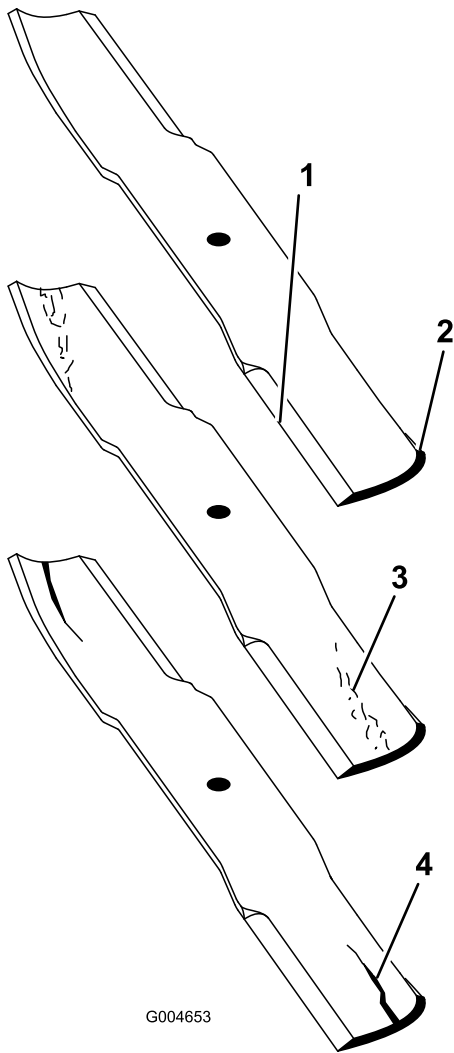

Figure 86
- Examine the cutting ends of the blade carefully, especially where the flat and curved parts of the blade meet (Figure 86).
Note: Because sand and abrasive material can wear away the metal that connects the flat and curved parts of the blade, check the blade before using the mower. If the blade is worn (Figure 86), replace it.